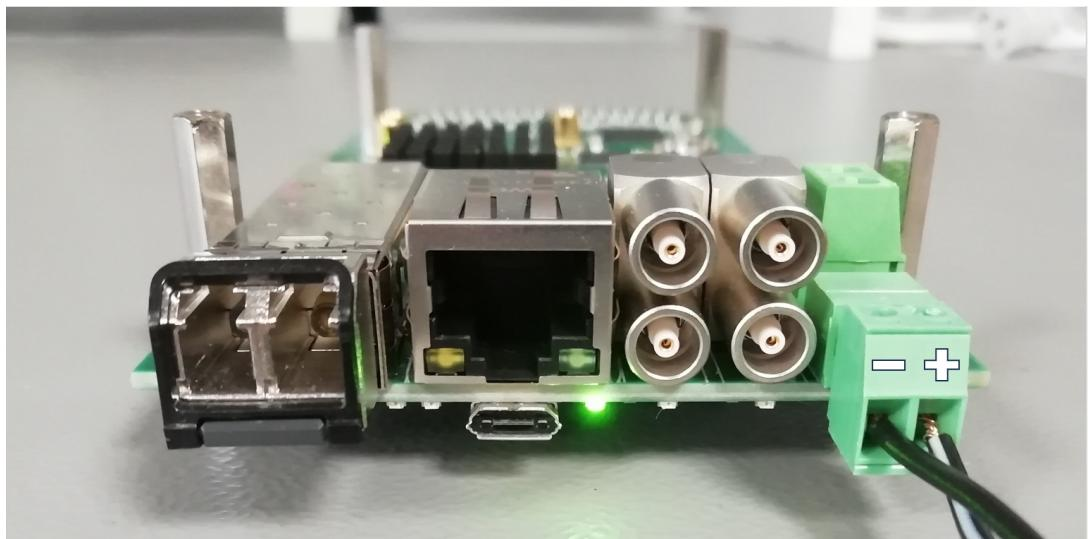

Fig. 11.1: A5203 status at power ON.
Note: In case of A5203(B), the DC connector polarities are [-.+] as marked in **Fig. 11.1**.
- The A5203(B) board immediately turns on, after few seconds the PWR green LED (see Sec. 8.1.1) turns on and stays on as long as the board is connected to the power supply (see **Fig. 11.1**). To power on the DT5203, the user has to press the button on the module front panel (see Sec. 8.1.1).